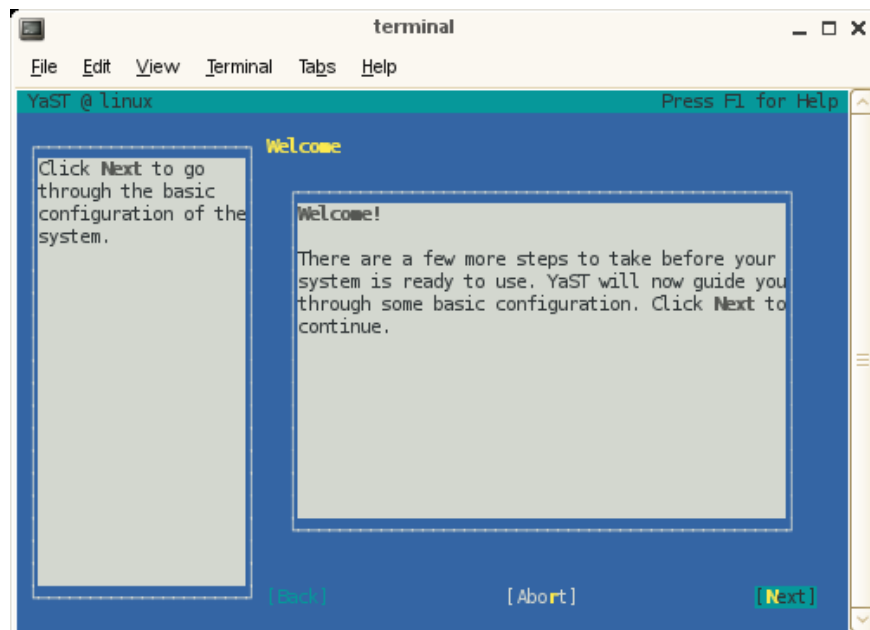

Figure 2-2 YaST **Welcome** Screen
6. After the reboot completes, the YaST first boot installation tool starts and a **Welcome** screen appears, as shown in Figure 2-2 on page 38. Click on the **Next** button to proceed.